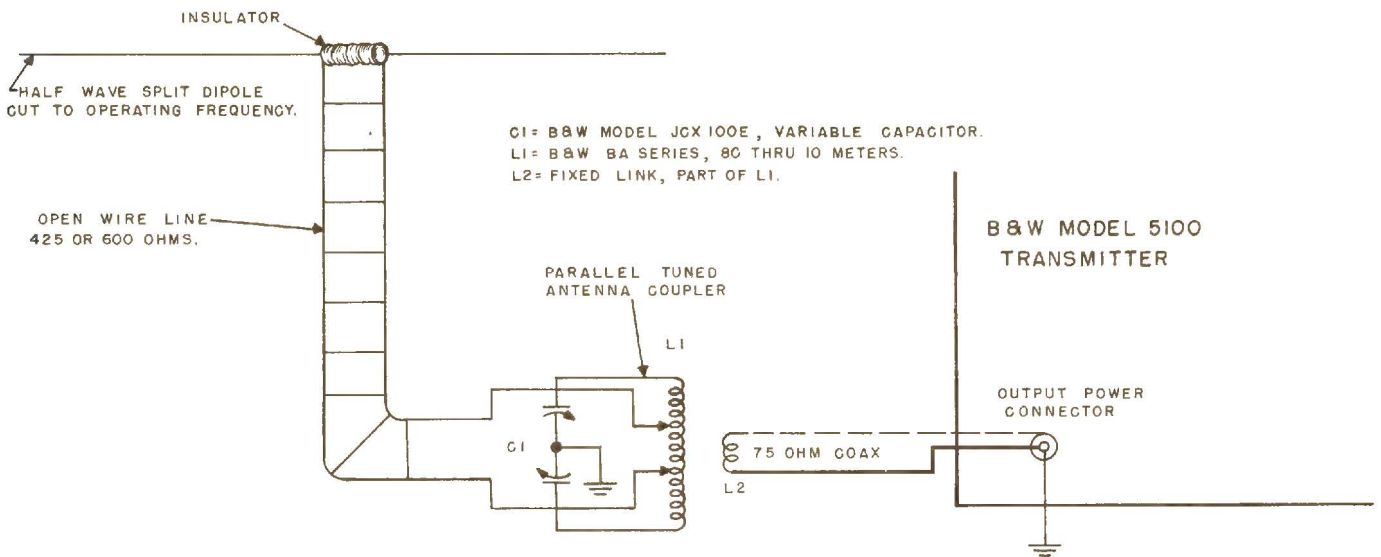

FIGURE 5A- CENTER FED, HALF WAVE SPLIT DIPOLE.
2. Refer to Figs. 5A & 6A and short circuit C1 then adjust plate tuning control on Model 5100 transmitter for minimum dip as indicated by the meter, when **meter switch** is in **amp. position**.